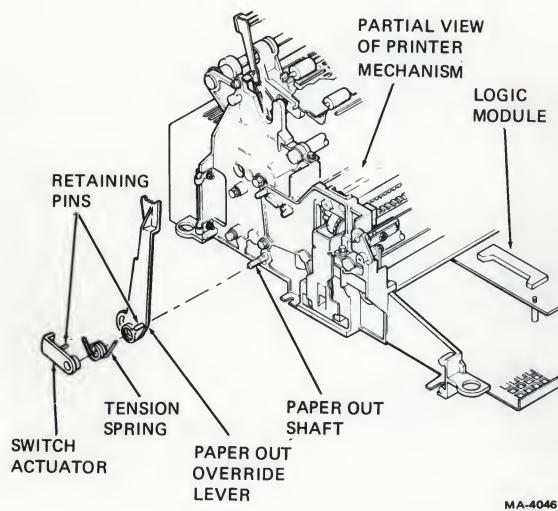

Figure 8-12 Installing the Paper Out Override Lever
8. Press the paper out override lever onto the paper out shaft (Figure 8-12).
9. Spread the legs of the tension spring to increase spring tension. Place the spring on the switch actuator (Figure 8-12).
10. Press the switch actuator onto the paper out shaft. Make sure the spring is held in place between the retaining pins on the paper out override lever and the switch actuator (Figure 8-12).